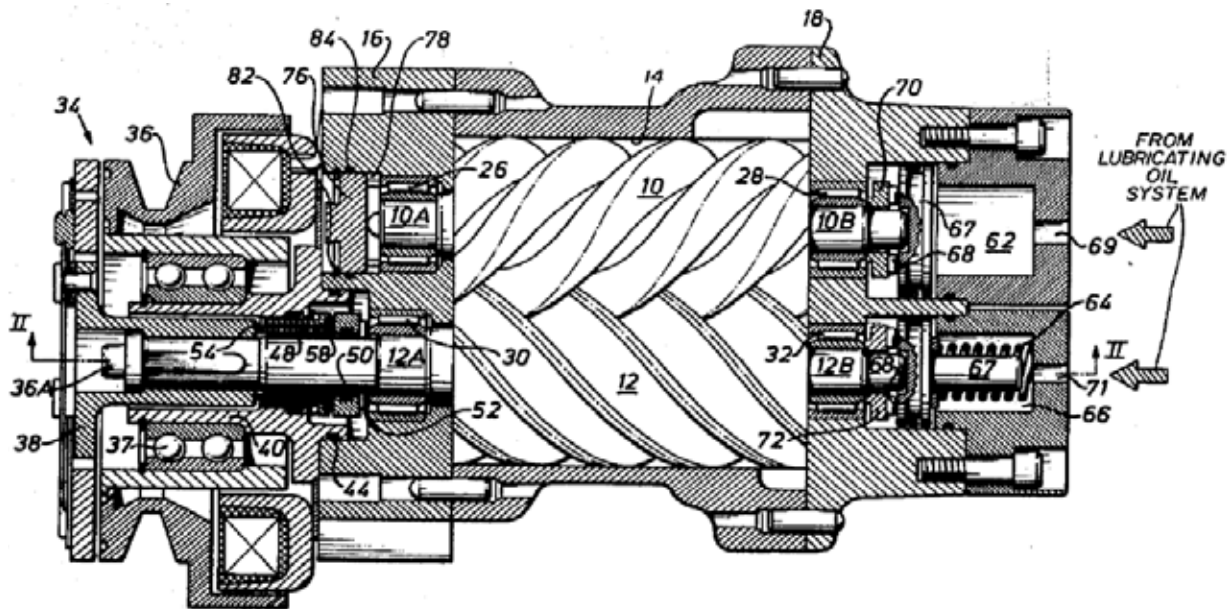

Figure 8
This design uses balancing pistons (item 67, Figure 8) that exert a biasing force on screw rotors (Schibbye et al., 1976). The force is generated by oil pressure entering at location 69 and the pressurizing cavity at location 62 (Figure 8). The oil is supplied from the lubricating system.